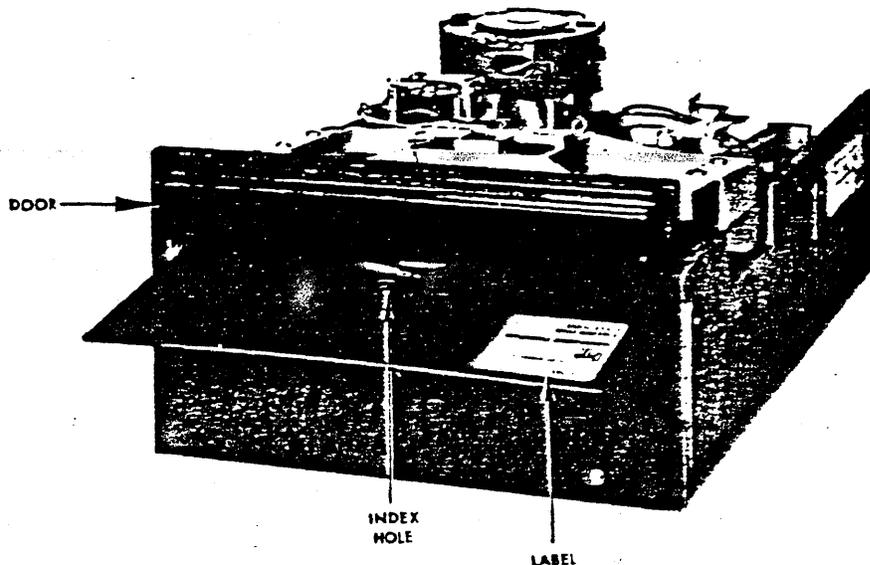

Figure 3-2. Diskette Insertion.
- d. Insert the diskette into the drive. The diskette is inserted with the index hole nearest the operator and the diskette label on the same side as (facing) the door. See Figure 3-2. To load the drive, insert a diskette into the open mouth of the drive until ejection mechanism is engaged and the door will shut when closed. Close the door to the drive.